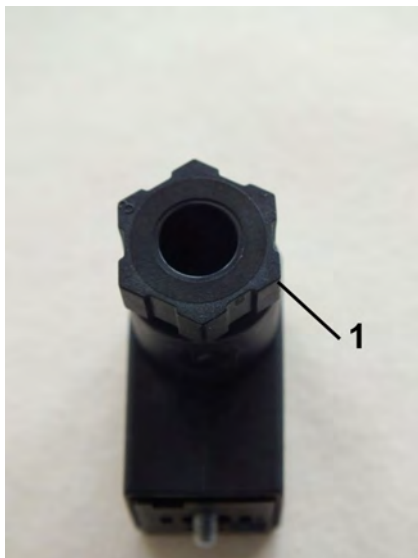

Fig. 23: Loosen the screw connection
4. ➤ Loosen the screw connection (Fig. 23/1) by turning it to the left
8. ➔ Retighten the screw connection Fig. 23/1) by turning it to the right until tight